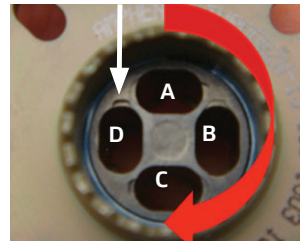

Figure 68: Rear view with insertion orientation
- Align the green/green-white pair's orientation keyway (i.e., the beige key), and insert it in position A, being careful not to insert it at an angle (Figure 68).